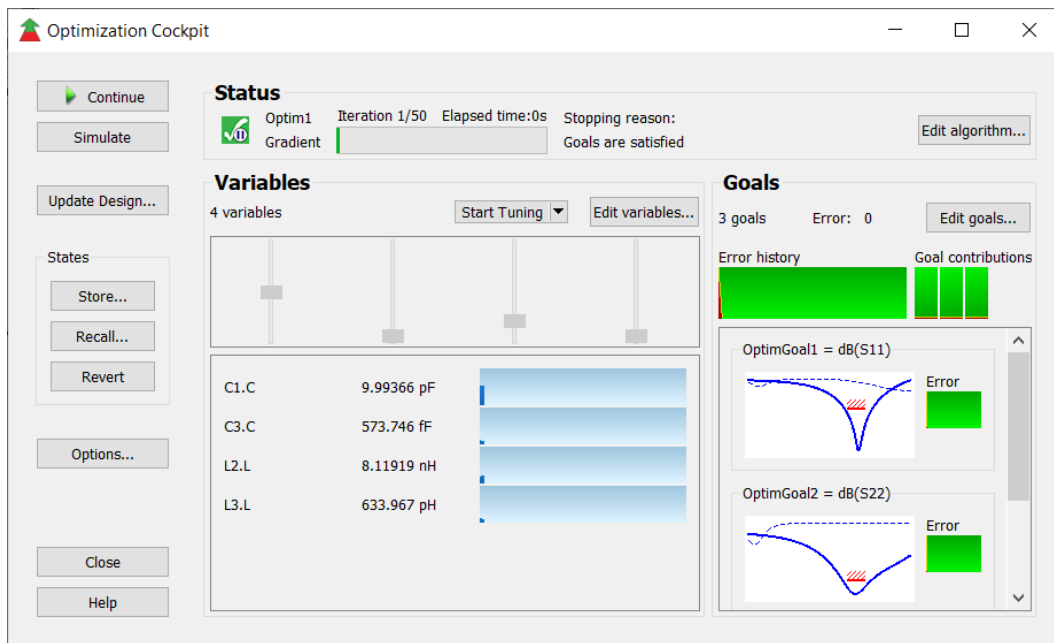

Figure 37. Optimization Cockpit window
2. The Optimization Cockpit and Data Display will open. When the optimization is completed successfully, the optimization will pause. This is shown in Figure 37.